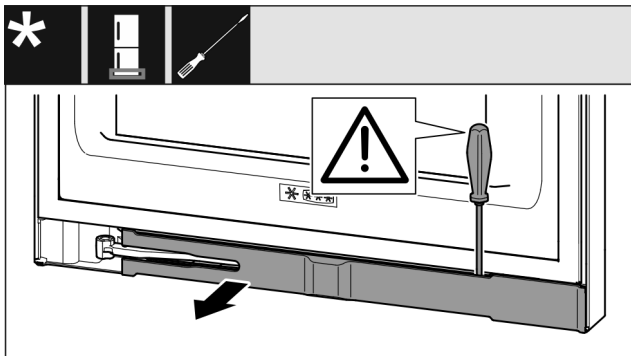

Fig. 13
- ▶ Use a slotted screwdriver to unlatch the trim and swing it to the side. (see Fig. 13)